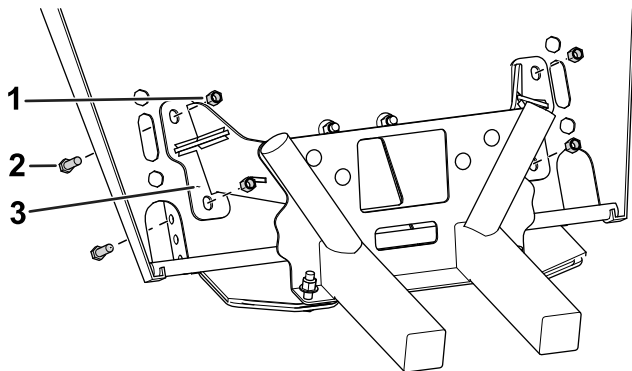

Figure 3
7. Use 4 hex-head bolts (3/8 inch) and 4 nuts (3/8 inch) to loosely secure the front of the skid plate and the support mounts to the bumper (Figure 3).